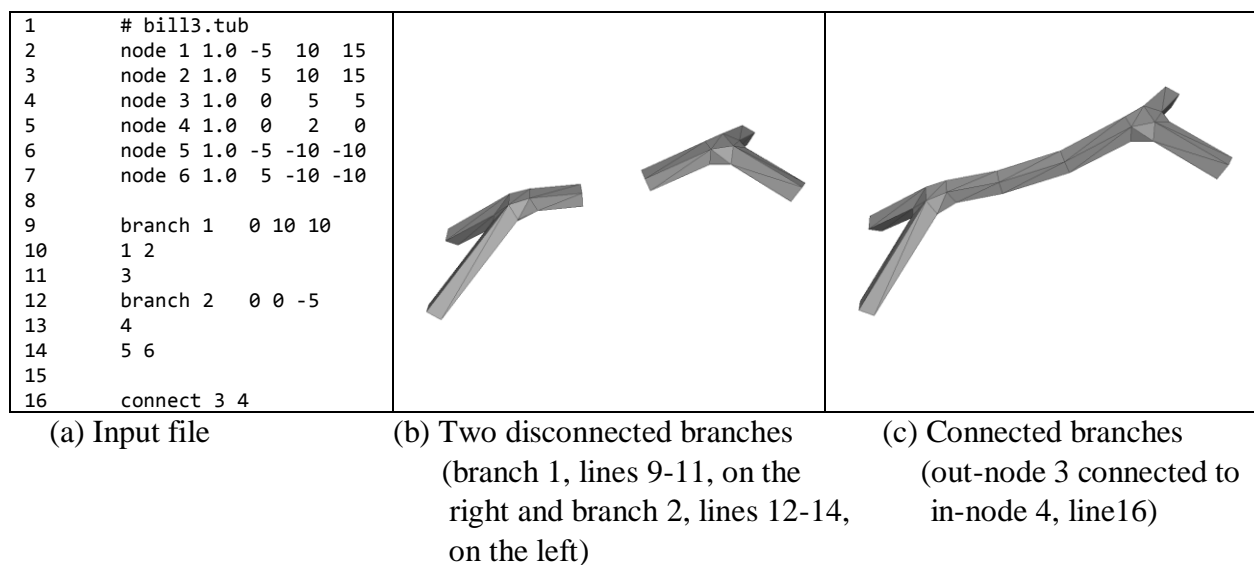

Figure 3. Tube Structure Input File and 3D Branching Model Created
The Open Files group allows you to open a tube file, graph file, or OFF file and check Use max move or Simplify checkbox. Using the Use max move checkbox you can control how the 3D construction method makes the triangular mesh around the center of the branch. Figure 2 illustrates the difference between two triangular mesh models constructed without (Figure 2(a)) and with (Figure 3(b)) the Use max move checked; 2(a)'s branch center is more tubby and 2(b)'s is more trim. Note that the model in Figure 2(a) appears to have more vertices and faces than those of the model in Figure 2(b) but both models show having the same vertices count (32) and faces count (52). The reason is the model in Figure 2(b) has overlap vertices and degenerated faces, which are not visible. They are not desirable if subdivide is needed to smooth the model. In such a case, the Simplify checkbox can be checked to merge overlap vertices and remove degenerated faces. The resulting model with Simplify check has 24 (vs. 32) vertices and 36 (vs. 52) faces. Using the Simplify option with care since the Simplify operation is time consuming (the algorithm implemented is quadratic time-complexity).
The tube file format is basically a line text (i.e. using ASCII character set coding) file format, where each line defines a record or empty including white-space characters for readability. We will use the file in Figure 3 to explain the file format (note the line numbers are not part of the file).
- There are three sections in the file: first section defines nodes, second defines branches, and third defines connection between nodes. In Figure 3, lines 2-7 define six nodes, lines 9-14 define two branches, and Line 16 defines a connection between two nodes. These three sections must be given in the order as shown in the file given in Figure 3(a).
where *id*, [*r*], *x*, *y*, and *z* have the same meanings as the node record, except here the radius *r* is optional (denoted by []). The <list-of-in-node-id> lists the ids of all the branch's in-nodes, which must be defined in the node section. In-nodes are those branch nodes that serve as input to the branch center. If <list-of-in-node-id> just contains a -1, there are no in-nodes to the branch. The <list-of-out-node-id> lists out-node ids similar to the <list-of-in-node-id> for in-nodes. For example, lines 9-11 in Figure 3(a) define a branch with id 1 center at (0, 10, 10) and of in-nodes 1 and 2, and of out-node 3.
cannot reference to a branch out-node. For example, line 16 in Figure 3(a) defines a connection between node 3 (an out-node of branch 1) and node 4 (an in-node of branch 2). Note the following line input
It is interesting to compare the directional tube structures defined in Figure 3(a) and Figure 4(b), respectively. Branch 10 defined in Figure 4(b) is a source branch (i.e. everything flows out the branch center), whereas the corresponding Branch 1 in Figure 3(a) is not. This difference is due to the algorithm we used to convert undirected graph structures to directional tube structures. As far as 3D modeling is concerned, they created identical mesh model (see Figure 3(c) and Figure 4(c)). However, with the graph file interface, because it is easier and graphs are so commonly used in many application domains, it opens up many techniques, some straightforward and some algorithmically interesting, to construct 3D tube models using the graph interface to the system.